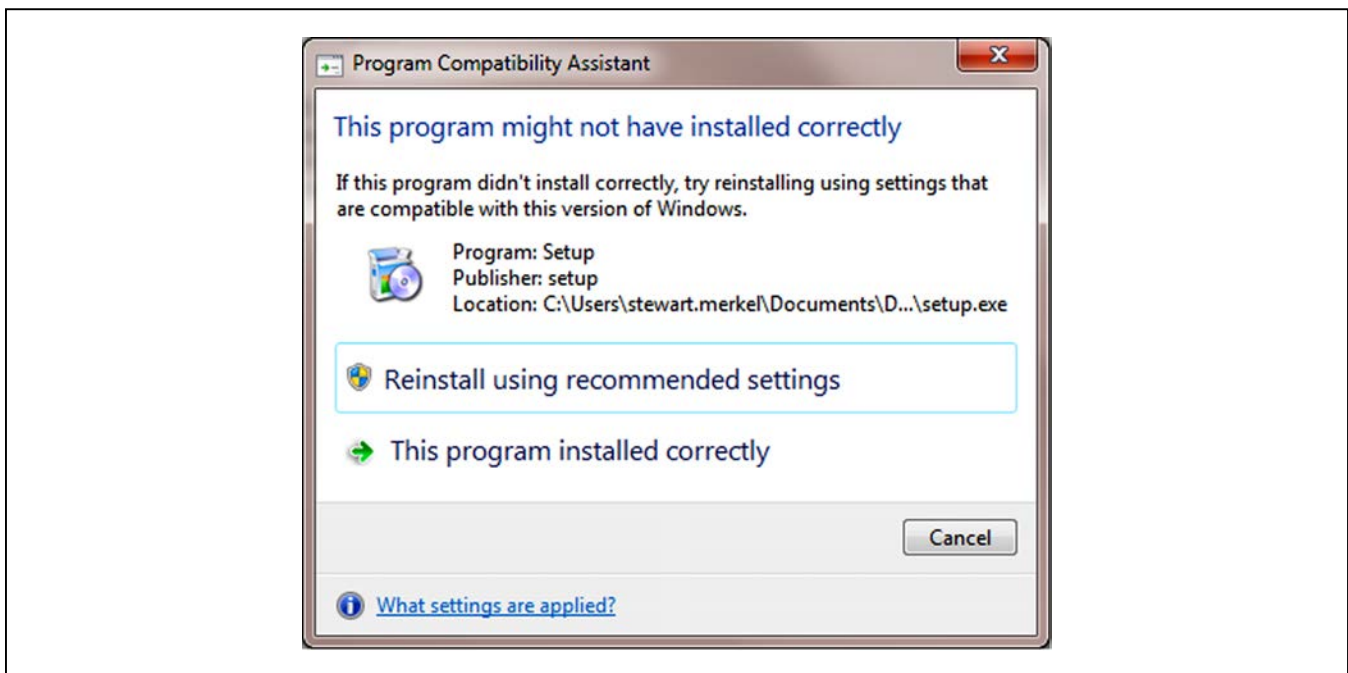
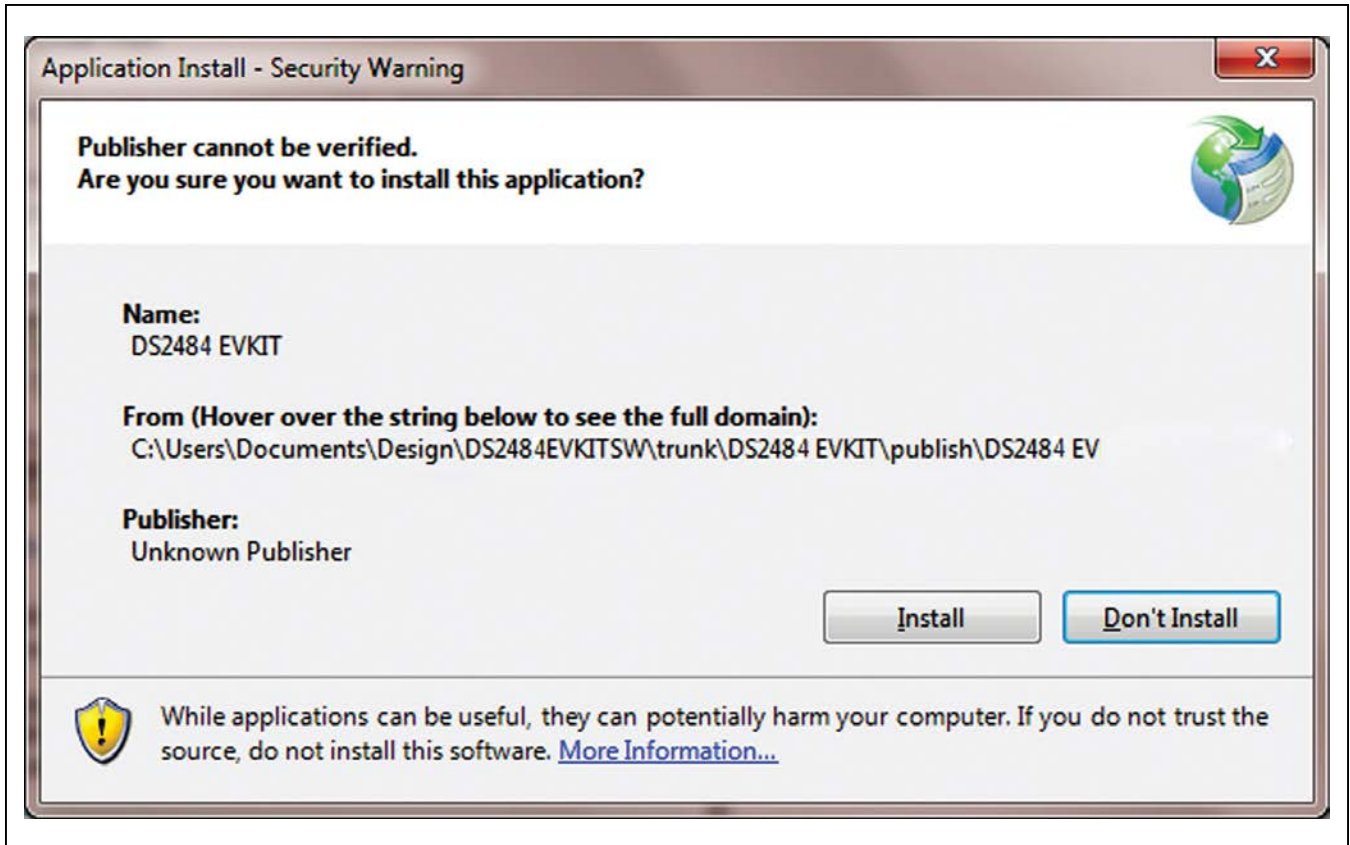

Figure 2. Program Compatibility Assistant
Figure 3. Application Install – Security Warning
- 6) Open the **DS2484 EVKIT** folder and double-click the **Setup.EXE**. If you encounter the dialog box shown in Figure 2, click the **Cancel** button. When prompted by the window as shown in Figure 3, click **Install**.